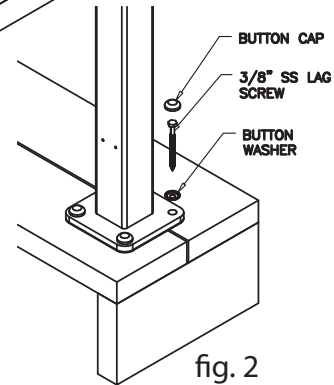

fig. 2
**2a. Surface mounting (fig.2):** utilizing the neoprene gasket under the base plate, anchor each post using four 3/8"x 3-3/4" minimum lag bolts with button washers and plastic button caps.